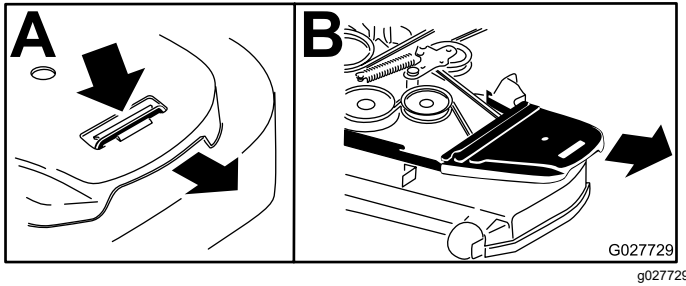

Figure 71
4. Remove the belt covers (Figure 71).